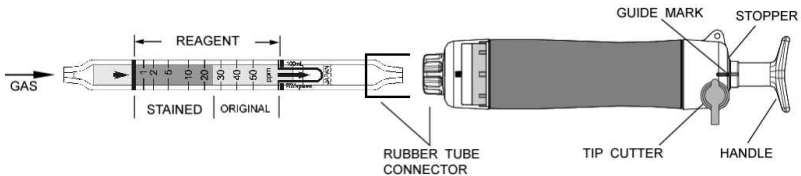

Fig.1
- ② Insert the detector tube into the aspirating pump securely as shown in Fig.1. (Arrow mark shall point to the pump.)
- ③ Align the guide marks on the shaft and stopper of the aspirating pump.
- ④ Pull the pump handle at a full stroke until it locks and wait for 5 minutes or until the completion of sampling is confirmed with the flow indicator of the pump. (See descriptions about the flow indicator in the instruction manual of the pump)
- ⑤ On completion of sampling, read the scale at the maximum point of the stained layer.
- ⑥ When the concentration is below the scale range, 2 pump strokes can be used to determine concentrations of 0.5 to 25 ppm. Then multiply the reading value by 0.5.
① Temperature; Correct the tube reading by following temperature correction table.